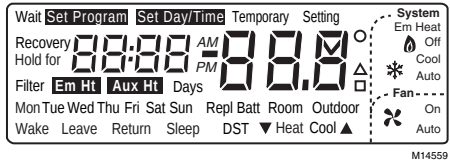

Fig. 7. Display of all LCD segments.
- To enter the Installer Setup, press and hold the Information i key with the increase ▲ and decrease ▼ keys until the first number is displayed. All display segments appear for approximately three seconds before the number is displayed. See Fig. 7 and 8.